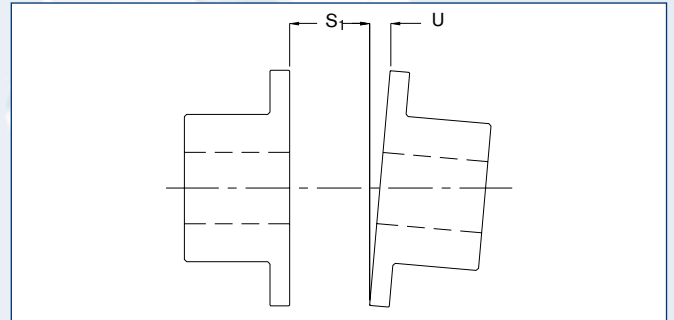

Fig. 5
3. It is a good practice to check the coupling alignment one last time after completing the assembly. This can be achieved by measuring the disc pack gap in 2 locations 180 degrees apart to find (2) lengths (Fig. 5). The difference in these two measurements should not exceed ( $U$ ); see Table 4, page 55. This completes the coupling installation.